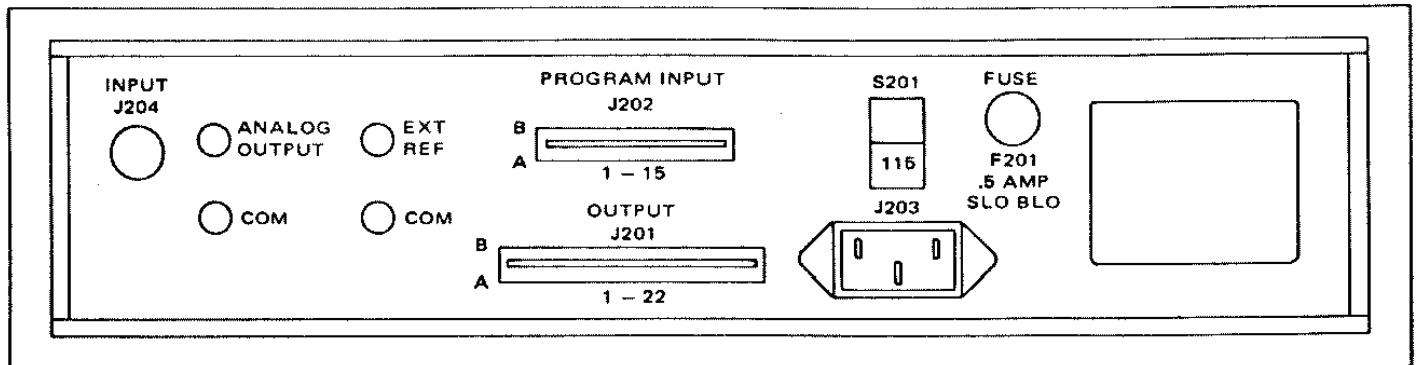

Figure 2.10 - Rear Panel
2.45 The 5900 has two system interface connectors designated as J201 (PRINTER OUTPUT) and J202 (PROGRAM INPUT) mounted on the rear panel of the instrument (figure 2.10). The following is a brief description of the capabilities of each connector.